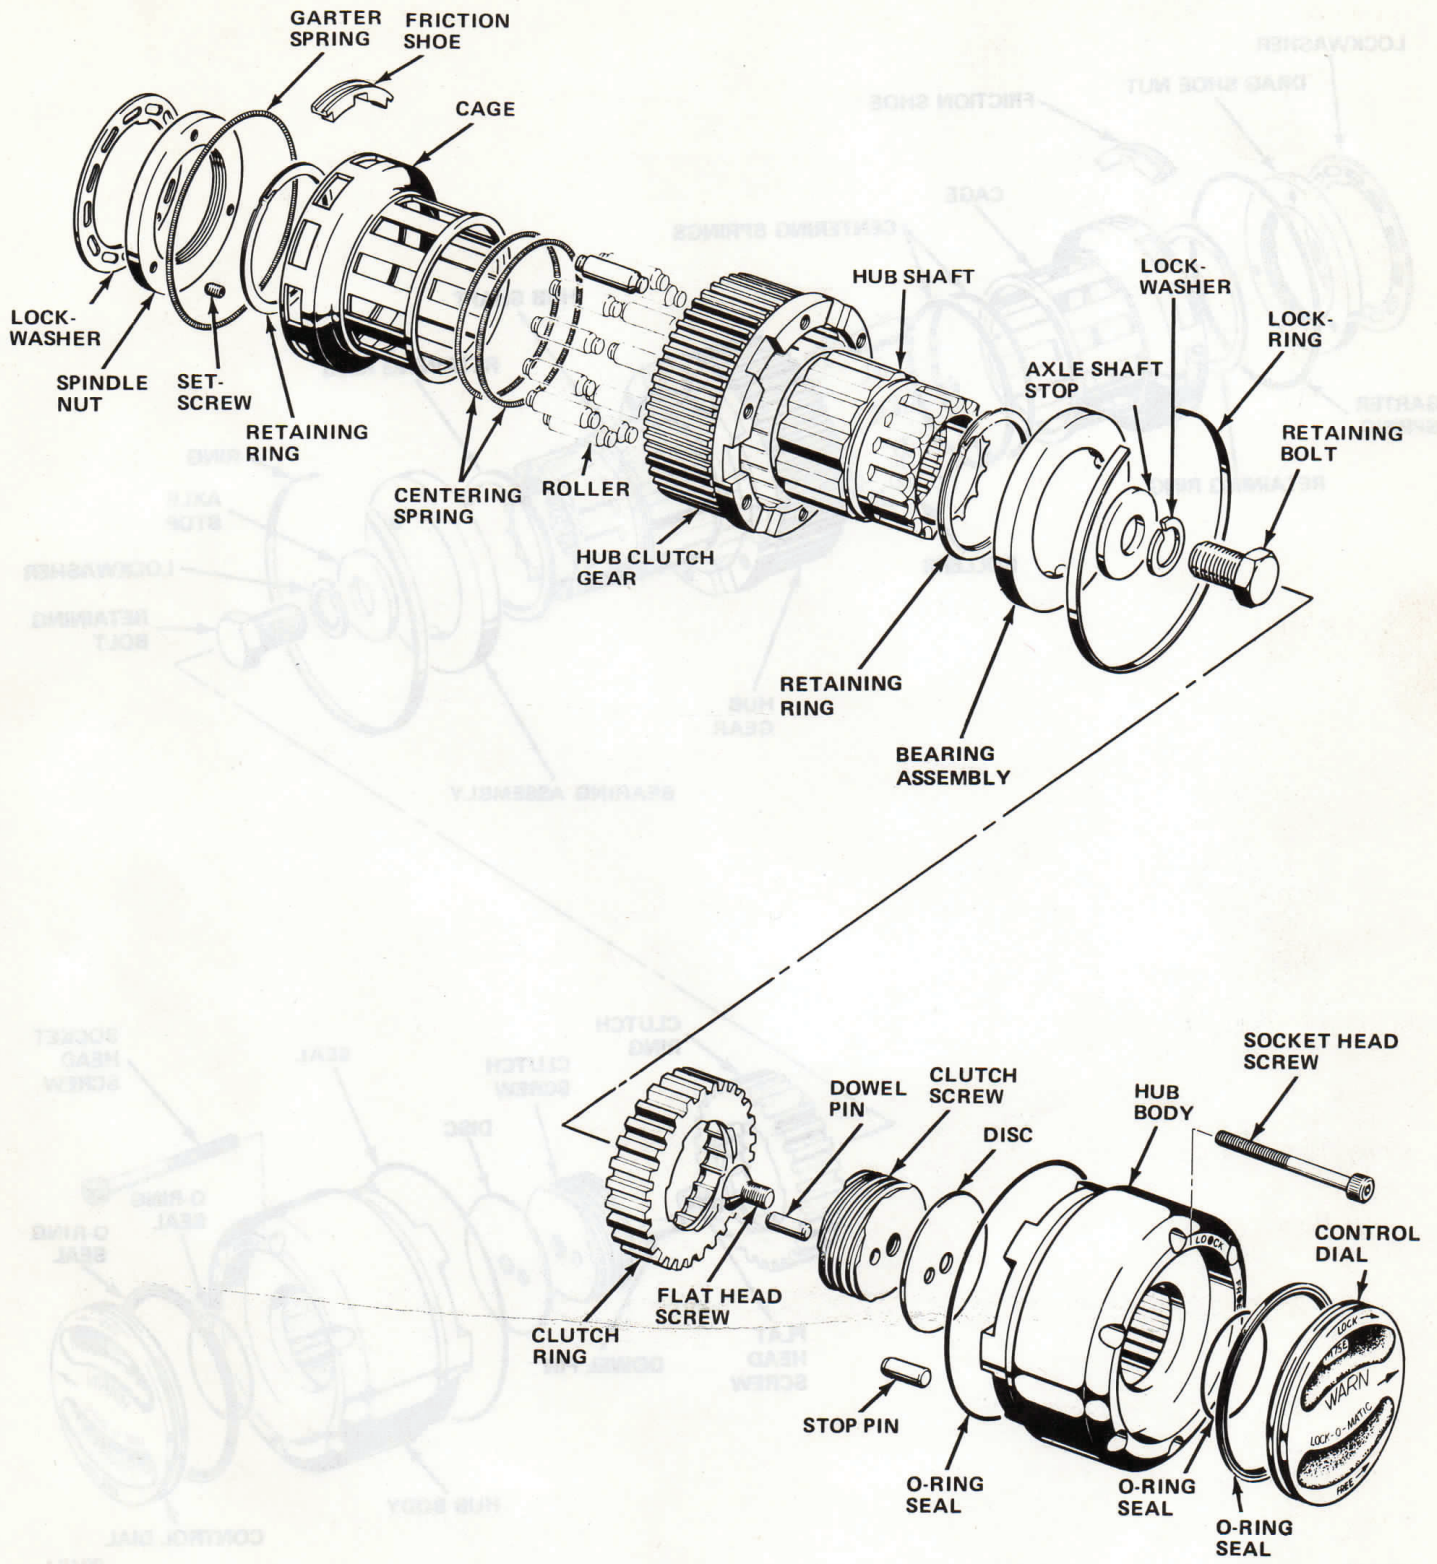

Fig. 7-14 M75 Hub Assembly
- (1) Remove hub body attaching bolts or socket head screws (figs. 7-14 and 7-15).
- (2) Remove hub body from clutch assembly.
- (3) Remove retaining ring or retaining bolt from axle shaft.
- (4) Remove clutch assembly.
- (5) Disassemble clutch and body assemblies (figs. 7-14 and 7-15).
- (6) Clean and inspect all components. Replace any component that is worn or damaged.
- (7) Lubricate all hub components lightly with chassis lubricant.
- (8) Assemble clutch and hub body assemblies.
- (9) Install drag shoe nut on axle shaft if removed. Tighten securely.
- (10) Install clutch assembly on axle.
- (11) Install retaining ring or retaining bolt and stop on axle.
- (12) Install hub gasket on axle.
- (13) Install hub body.
- (14) Install hub bolts or socket head screws.
- (15) Set hub control dials to Free position.